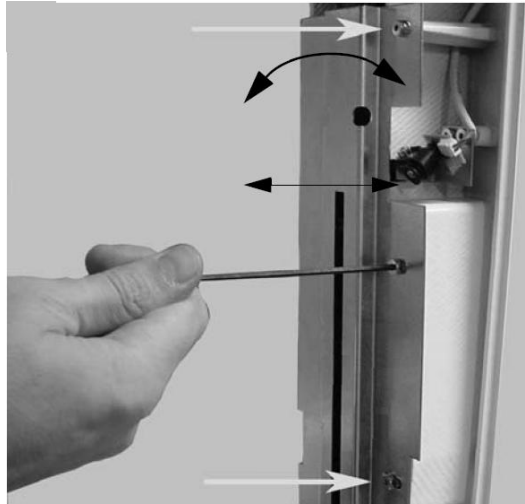

Figure 25
*NOTE: If still unable to fix the vertical alignment, loosen the three 2.5mm allen screws on the Sensor Head and make further adjustments there. (Figure 25)*
*NOTE: If the X-lines are not parallel then adjust the sensor position till it is. See Figure 25 on pg.20.*